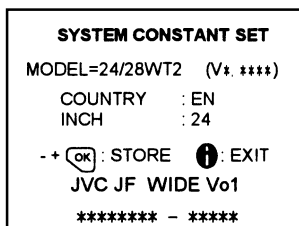

Fig. 2
- 3) While the SERVICE MENU is displayed, press the INFORMATION key and MUTE key simultaneously, and the SYSTEM CONSTANT SET screen shown in Fig. 2 will be displayed.